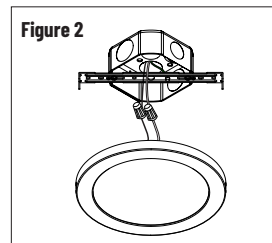

Figure 2
2. Connect supply wires to luminaire. (Figure 2)
4. Attach the torsion spring kit (NLOCAC-6811RECKIT - ordered separately) onto the luminaire using the screws provided. Adjust the width to fit into a 5" or 6" housing. (Figure 2)